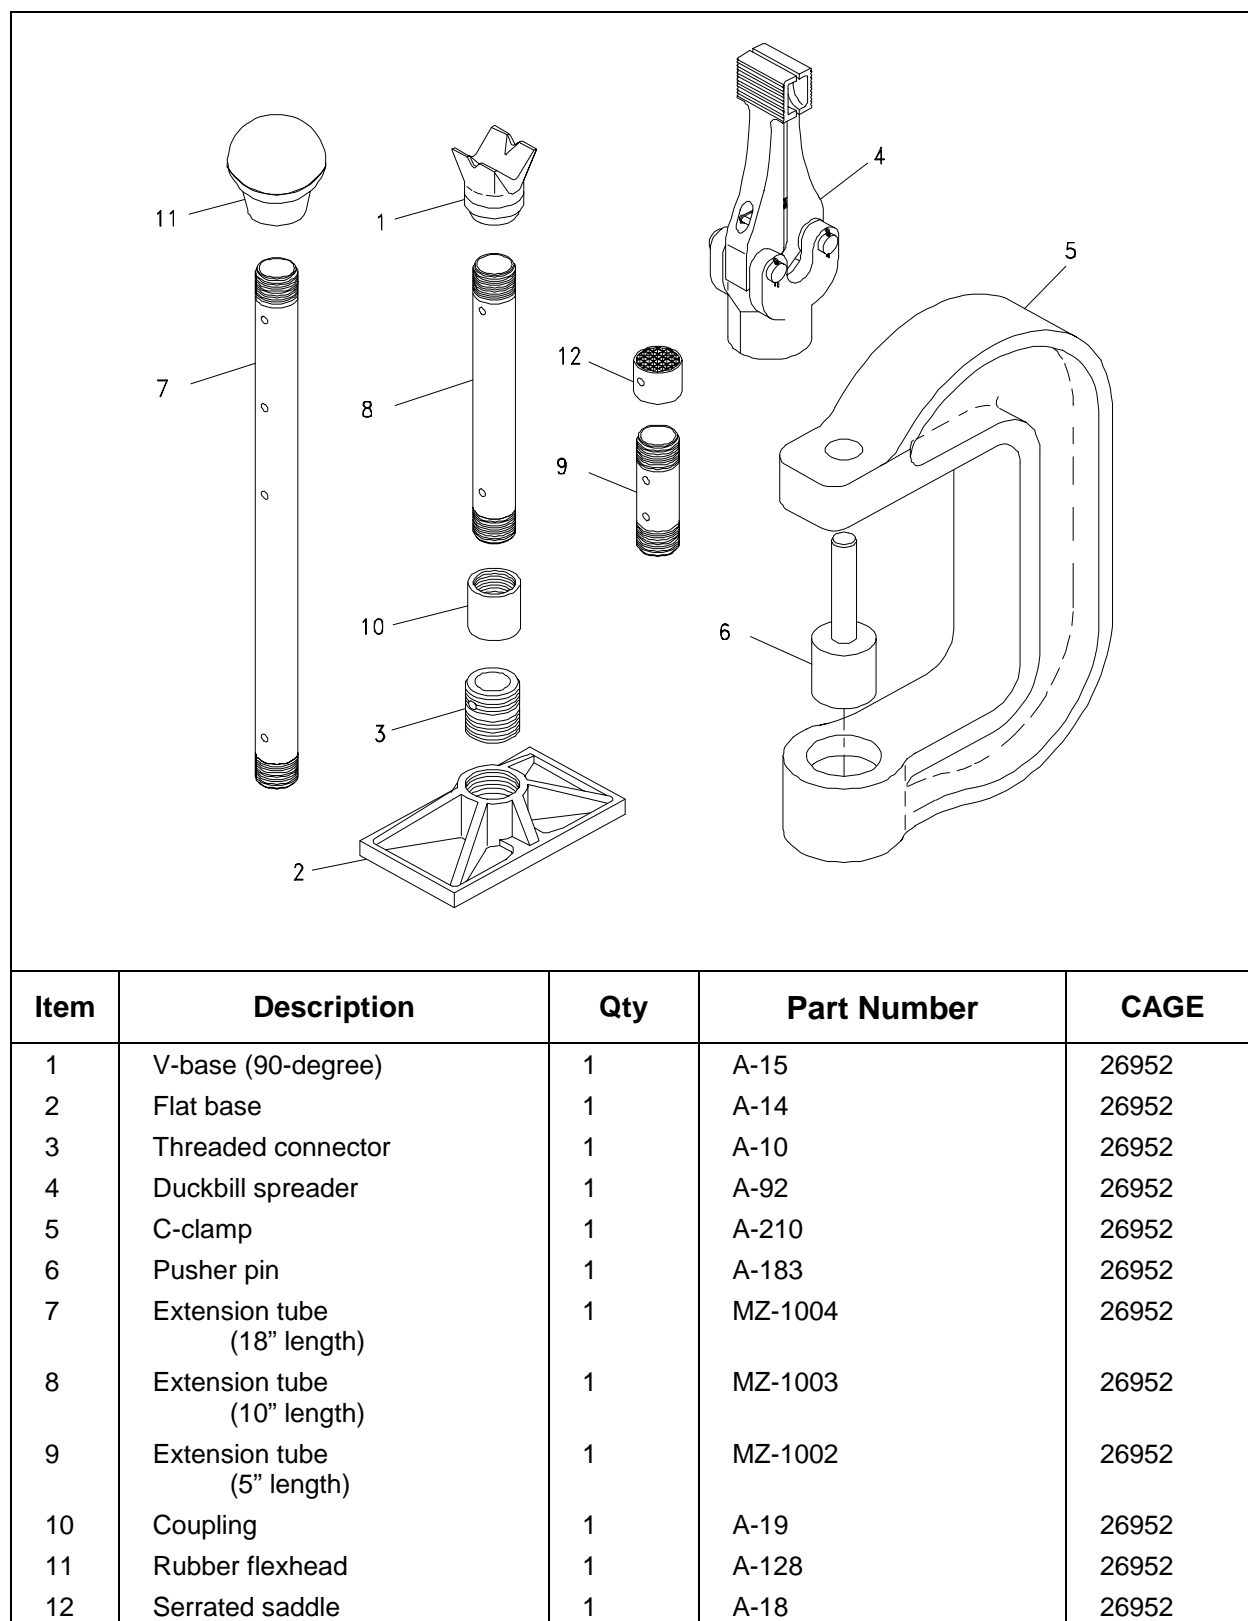

Figure C-5. Jack Ram Accessories
- b. Figure C-5 illustrates the accessories.